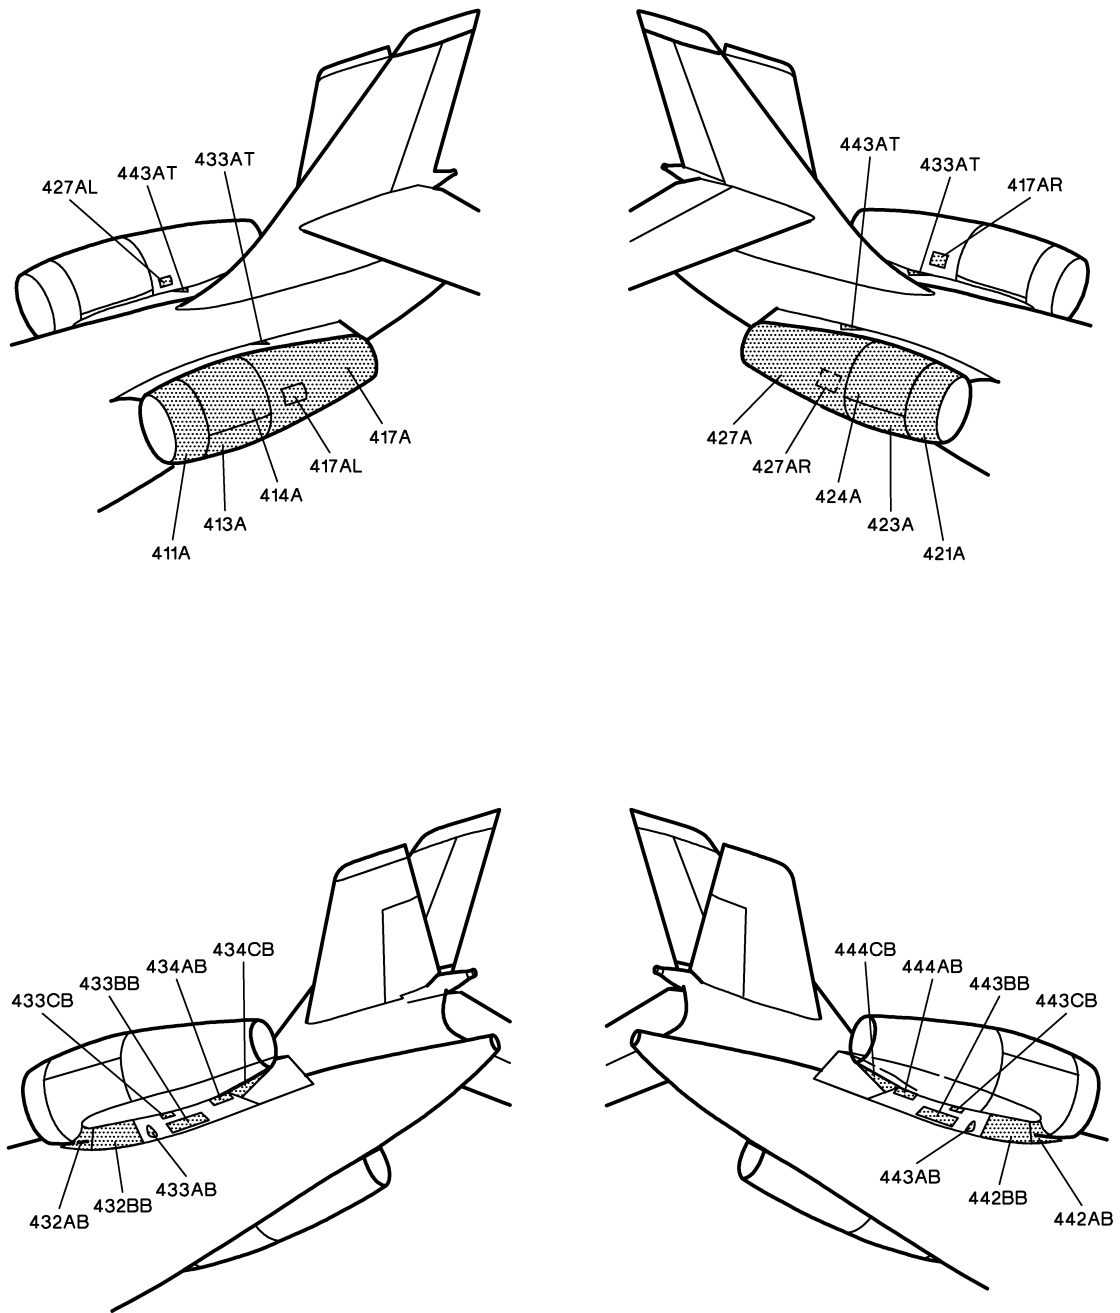
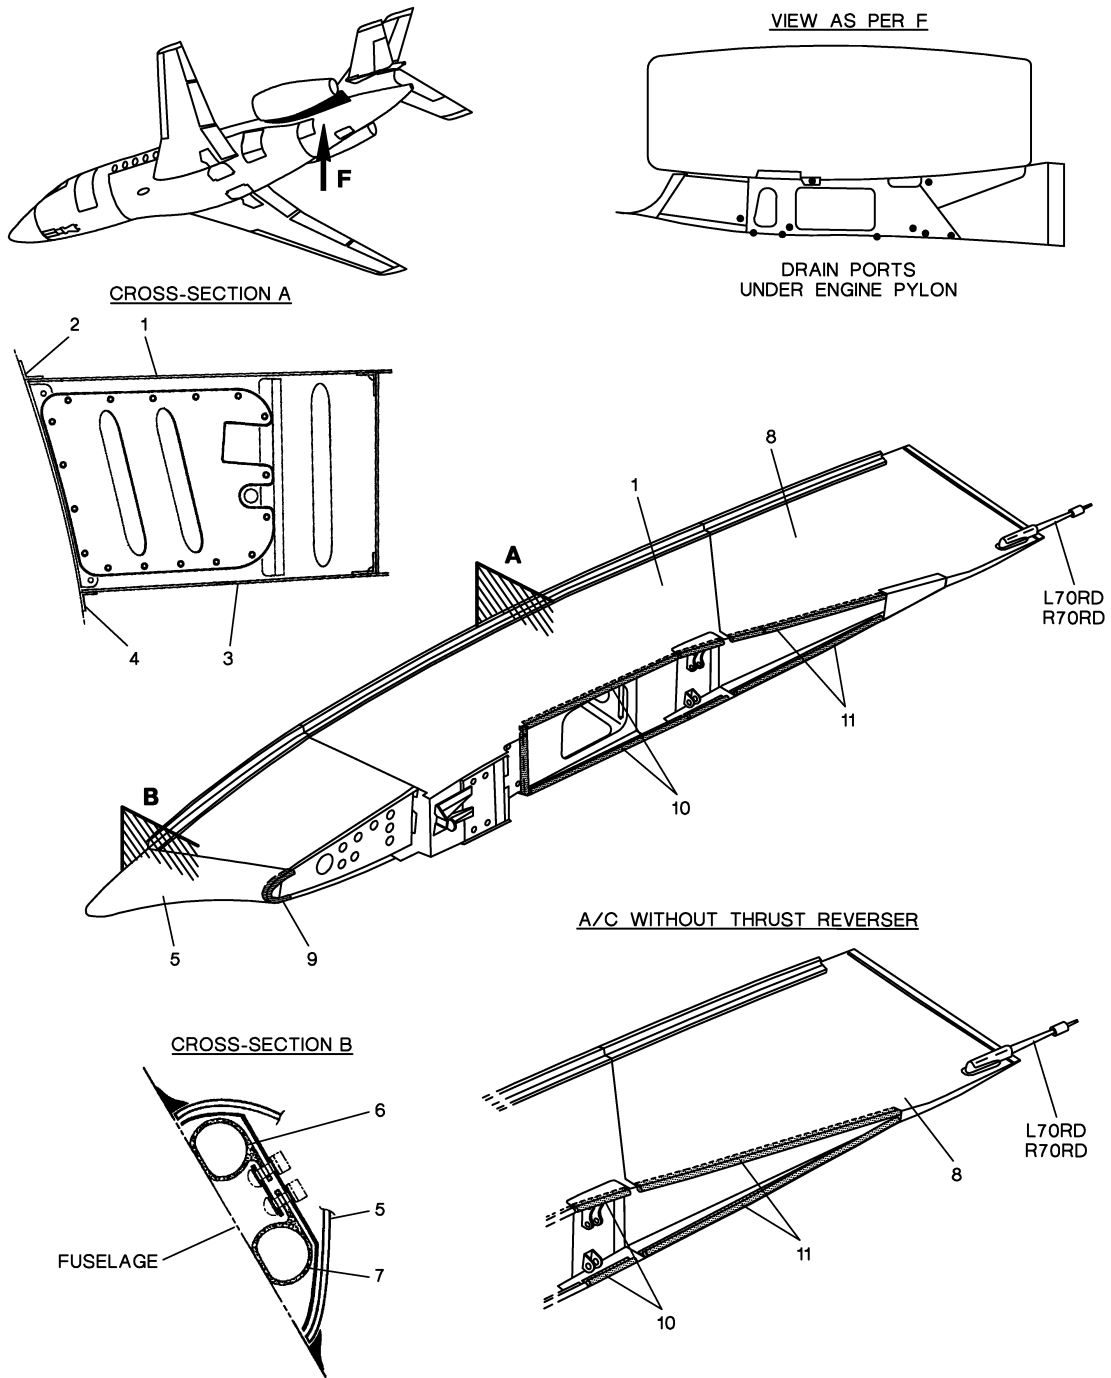
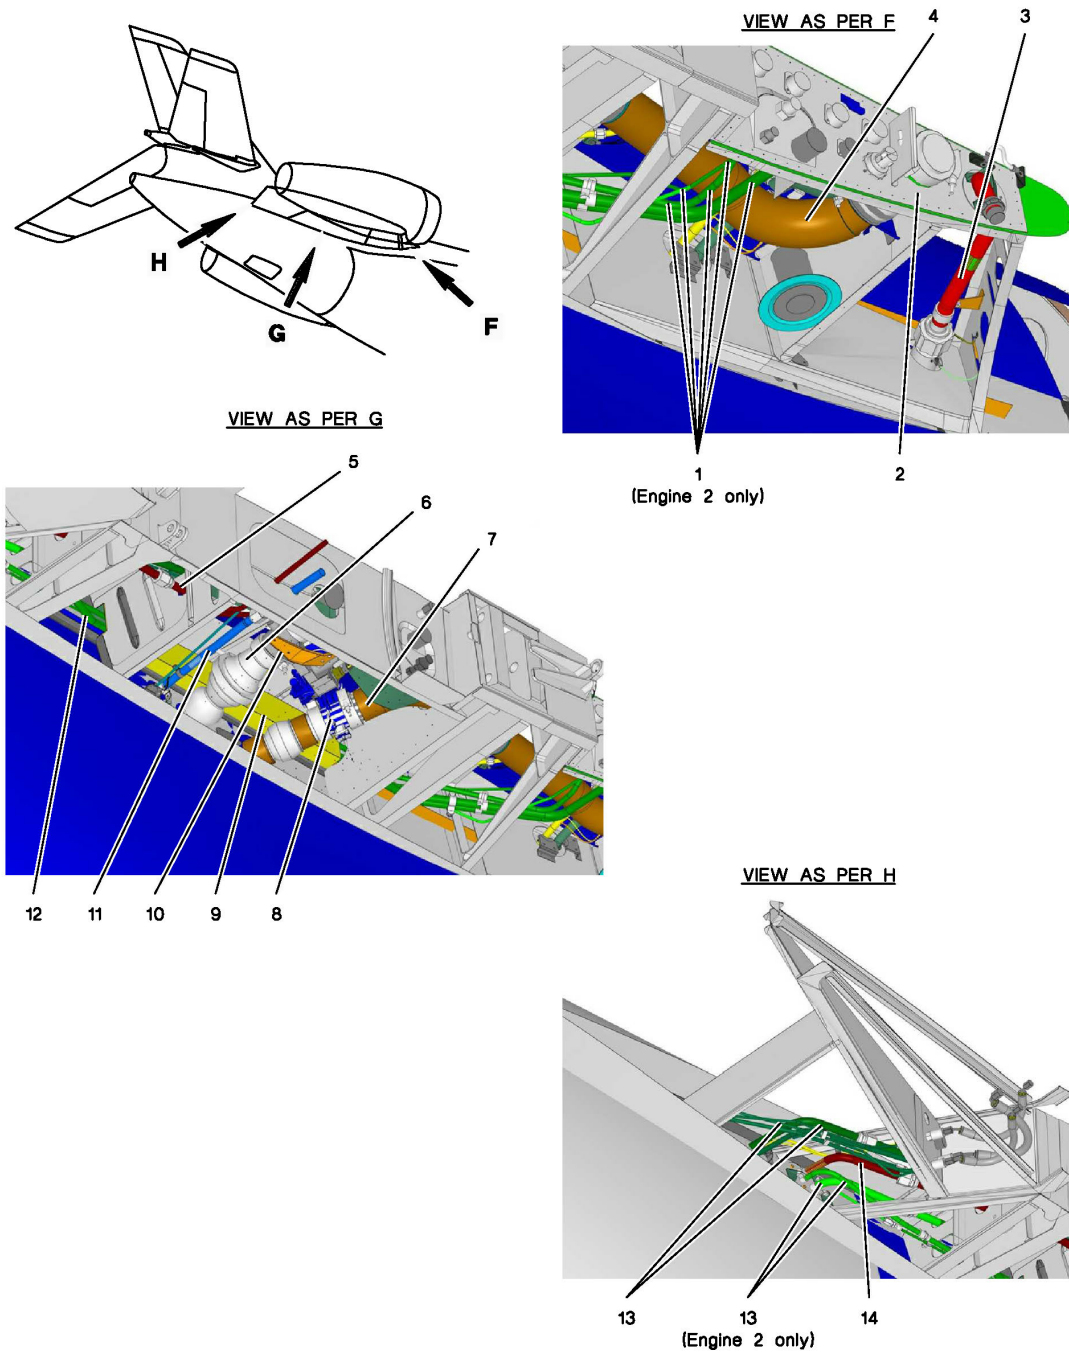

Figure 1: INSPECTION OF NACELLES AND ENGINE PYLONS
Figure 2: EXTERNAL INSPECTION OF ENGINE PYLONS
Figure 3: INTERNAL INSPECTION OF ENGINE PYLONS
Refer to **fig. 1**
Refer to **fig. 1**, **◆**, **fig. 2** and **fig. 3**
- (1) Check upper (1-fig. 2) and lower skin (3-fig. 2) for:
- (2) Inspect pylon-to-fuselage bracket (2-fig. 2) and (4-fig. 2) for:
- (3) Inspect pylon-to-nacelle connecting seals:
connecting seals (10-fig. 2) (absence of damage or tears).
(c) Through access panels (432AB)/(442AB) and (432BB)/(442BB) (fig. 3):
- air starter pipe (4-fig. 3),
- fuel pipe (3-fig. 3),
- hydraulic pipes (1-fig. 3) and couplings.
(d) Through access panels (433BB)/(443BB) (fig. 3):
- air starter pipe (7-fig. 3),
- engine starting valve (8-fig. 3),
- engine bleed air valve (10-fig. 3),
- air pipe (6-fig. 3),
- extinguisher pipes (5-fig. 3),
- fuel pressurization pipe (11-fig. 3),
- shroud (9-fig. 3),
- hydraulic pipes (12-fig. 3) and couplings.
- (e) Through access panels (**434CB**)/(b>444CB) (**fig. 3**):
- hydraulic pipes (**15-fig. 3**) and couplings.
- (f) Check firewall (**2-fig. 3**) for condition.
- (g) Check seals (**9-fig. 2**), (**10-fig. 2**) and (**11-fig. 2**):
- 1 Check security of attachment and condition of upper and lower seals (**9-fig. 2**), (**10-fig. 2**) and (**11-fig. 2**) (no damage or tears).